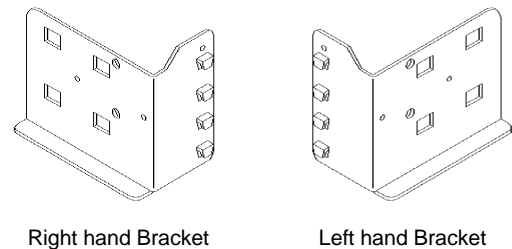

Figure 1
2. Each Dual Tower R/O Shelf is supplied with four corner **Brackets**, (2) left hand and (2) right hand. See **Figure 1**.